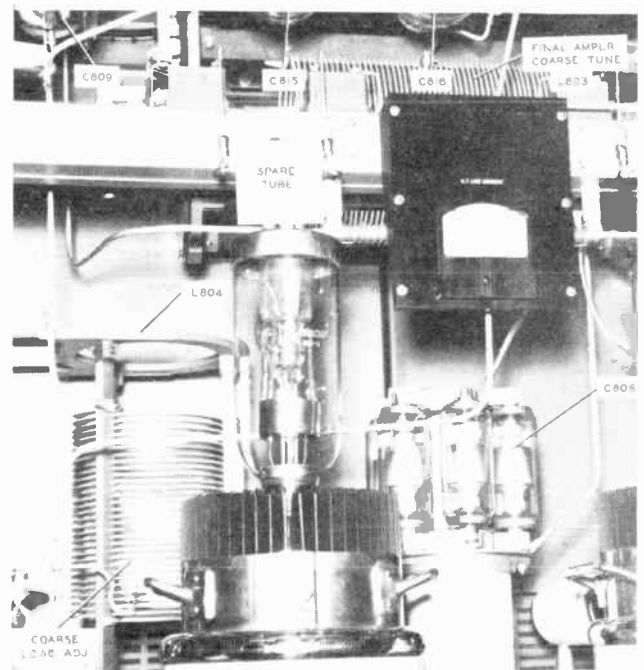

Figure 3-4 Power Amplifier Plate Tank and Output Network Inductors
(3) Rotate the TUNE METER SWITCH to the FINAL TUNE position.
(4) Rotate the POWER switch to the LCW position.
(5) Pull the PLATE start-stop control.
(6) Operate the TUNING control. Tune for minimum plate current as indicated on plate meter M902. If the point of resonance cannot be reached, adjust the tap on the plate tank inductor, L803 until resonance can be established. See figure 3-4.
(5) To decrease the loading, raise the inductance of the output coil L804 of the L section. To increase the loading, the procedure is the opposite of the above. See figure 3-4.
(6) To complete the adjustment of the L section, set the tap on the output branch to give a maximum antenna line current. When the above conditions have been obtained, a slight adjustment of power amplifier plate tank circuit is necessary. To make this adjustment, rotate the CIRCUIT-METER SEL switch to the FINAL TUNE position and operate the ADJUST control until the tank circuit is set at resonance.
(7) Now detune the plate circuit slightly to one side of this setting. The plate current and the line current will now increase as will the plate efficiency.